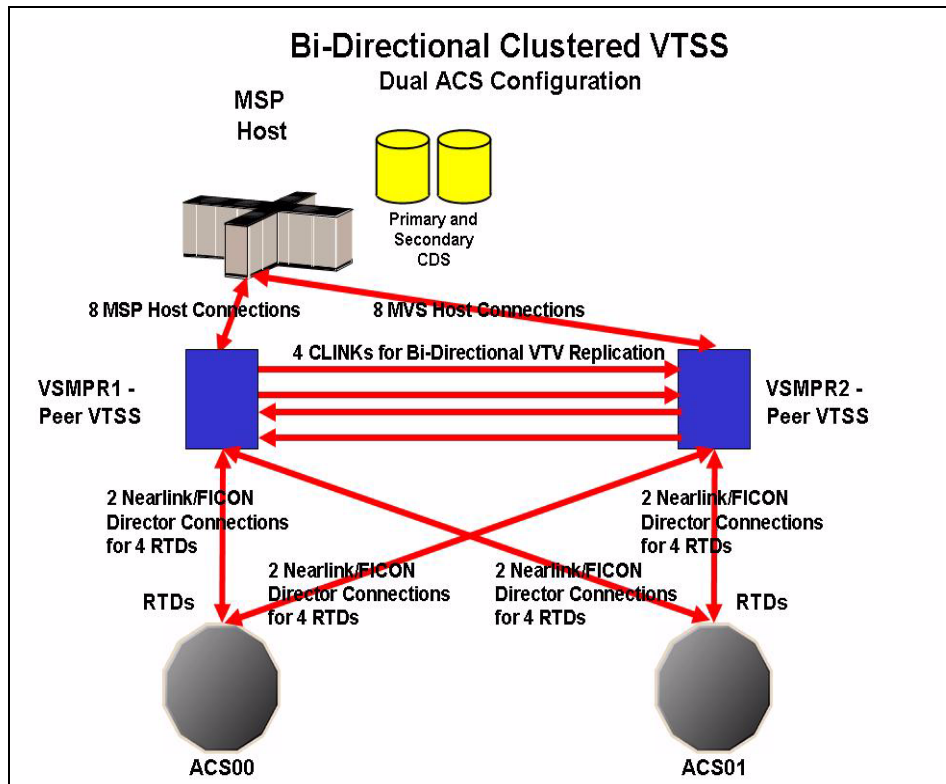

FIGURE 8-3 Bi-Directional Cluster attached to a Dual ACS
- *Bi-Directional Clusters*, which consist of two *Peer VTSSs* connected by one or more cluster links (CLINKs). **FIGURE 8-3** shows a Bi-Directional Cluster attached to a single ACS. The CONFIG CLUSTER statement defines the Cluster, and the CONFIG CLINK statement(s) this Cluster as Bi-Directional.
FIGURE 8-3 shows a Peer-to-Peer VTSS Cluster cross-connected to two ACSs for increased redundancy (for example, for enhanced Disaster Recovery capability).